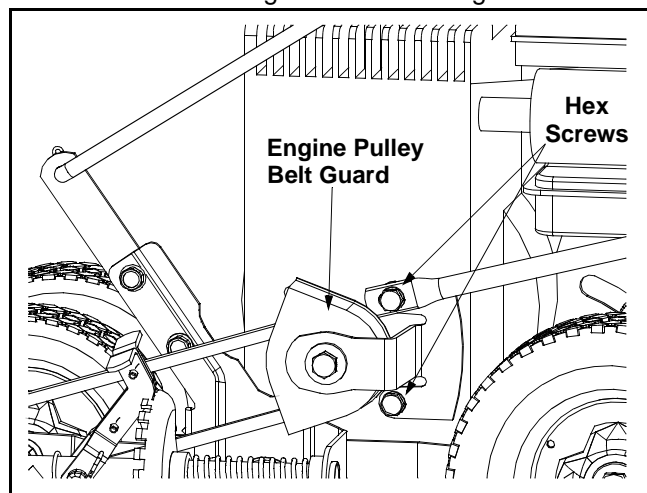

Figure 18
- Remove the engine pulley belt guard by removing the two hex screws and two lock washers which secure it to the engine block. See Figure 18.